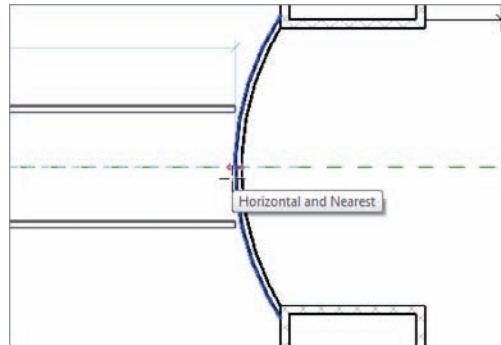

FIGURE 2.35 Completing the main corridor. You'll still have to drag the walls together to join them.
9. Pick the intersection of the reference plane and the radial wall as the second point, as shown in Figure 2.35.